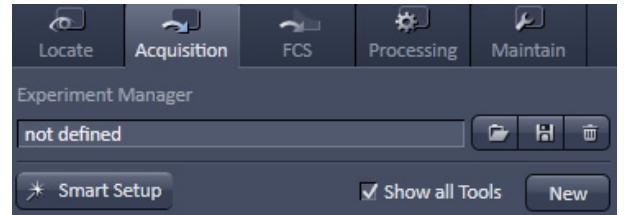

Fig. 331 Left toolbar area - Acquisition
- In the main toolbar of the left toolbar area activate the **Acquisition** tab (Fig. 331).